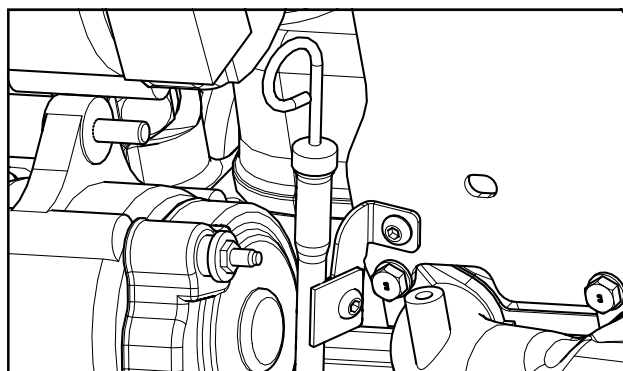

Fig. 2.17 (Dipstick Relocation Bracket)
2.17 Install the dipstick relocation bracket as shown in Fig. 2.17. Ensure dipstick tube is fully seated into the engine block prior to tightening hardware.
*Note: The 1/4-20 Flange nut is hidden behind the relocation bracket in Fig. 2.17.